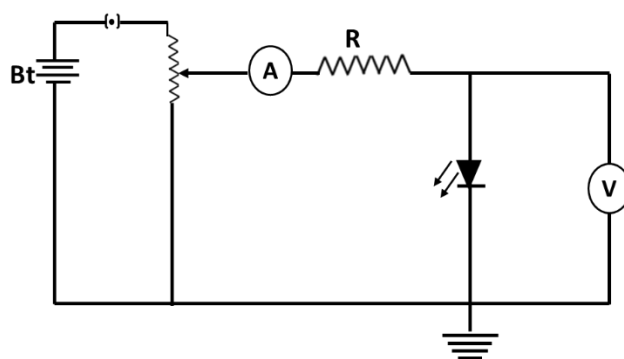

Fig.3.1. Circuit diagram for determination of Planck's constant
- Connections are made as shown in the circuit diagram. (Fig.3.1). The rheostat is adjusted till the LED starts glowing.